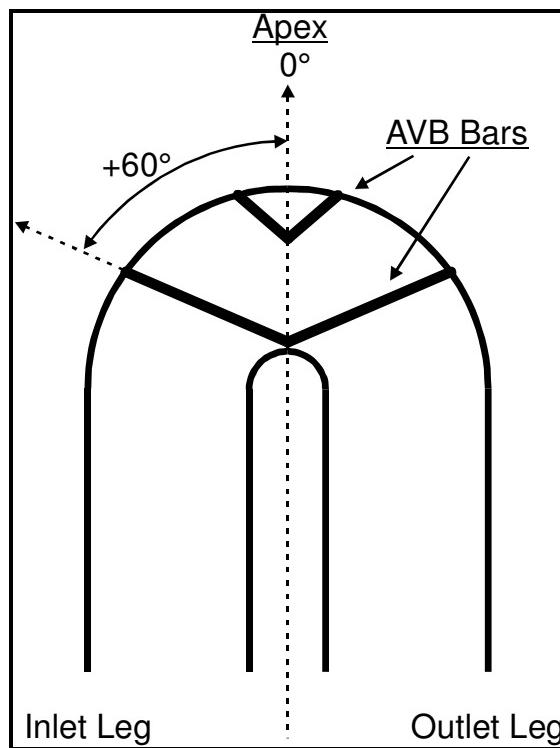

Figure 26. Understanding the ANGLE Value for UBEND Landmarks, i.e., AVBs
- **ANGLE:** Enter the angle where a UBEND landmark, i.e., AVB, intercepts the UBEND. This angle value is measured as either a positive or a negative value in reference to the centerline of the tube bundle. The vertical centerline is considered 0° . As shown in Figure 26, positive values correspond with landmarks on the inlet side of the centerline while negative values coincide with landmarks on the outlet side of the centerline. This setting works with the FIRST and LAST values discussed below.